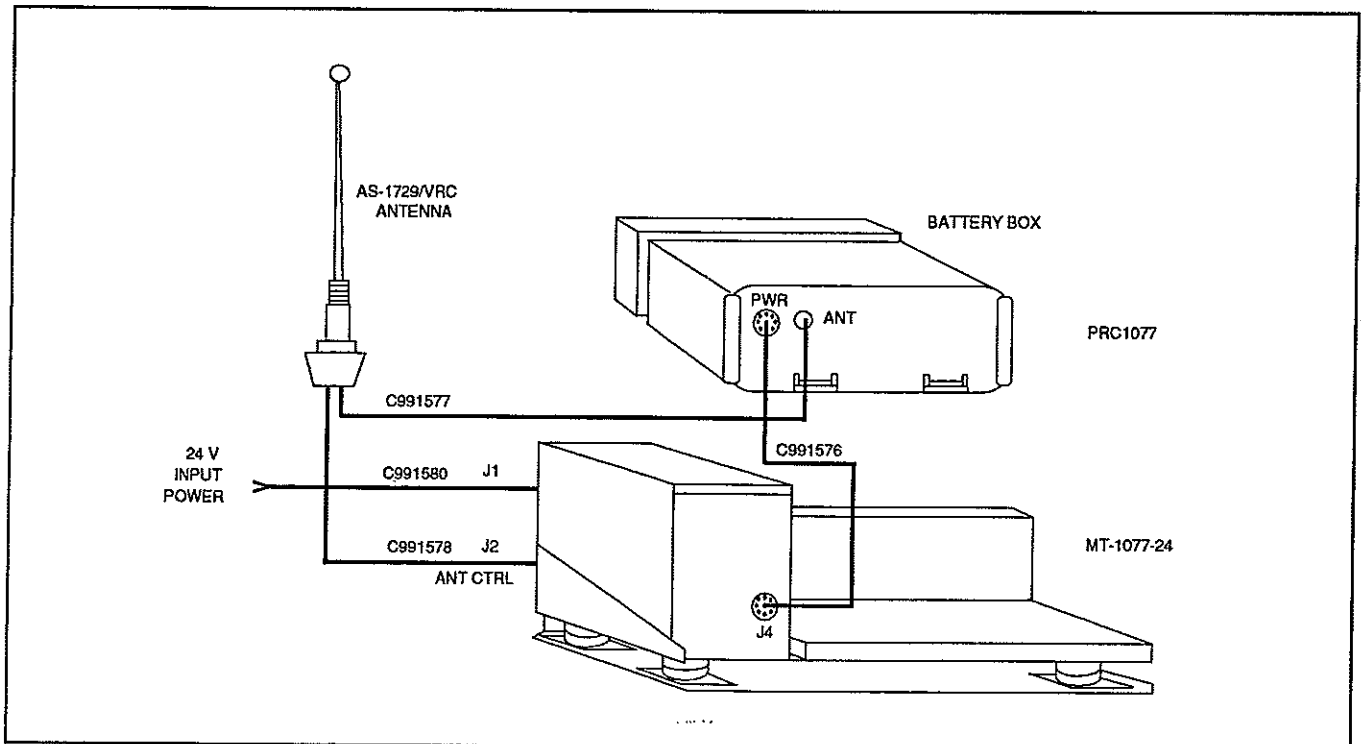

FIGURE B-8.
a. The PRC1077 can be used in a mobile configuration as shown in Figure B-8.
3. Attach the correct cables as indicated in Figure B-8.